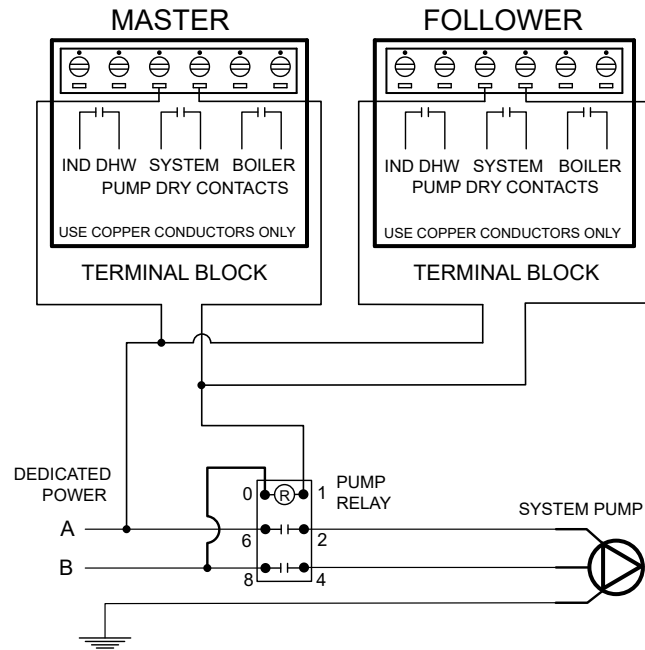

Figure 35. Heater Cascade System Pumps
1. On the heater designated as the Master, connect the system pump enable wiring to the field-wiring terminal block inside the junction box. The connections are dry contacts rated for pilot duty only (5A maximum). See **Figure 35** for details.